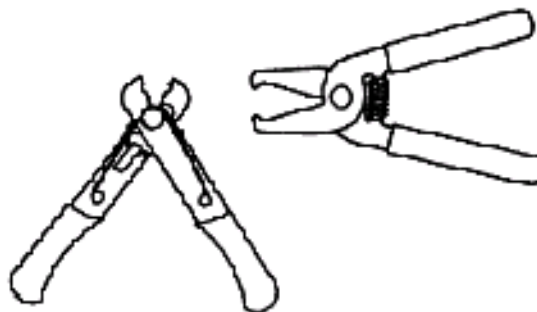

Figure 17. Shear Type Cutter
22. **Shear Type Cutters.** A shear type cutter is one where the blades pass each other. This type cutter will preserve the symmetry of the wire (Figure 17).